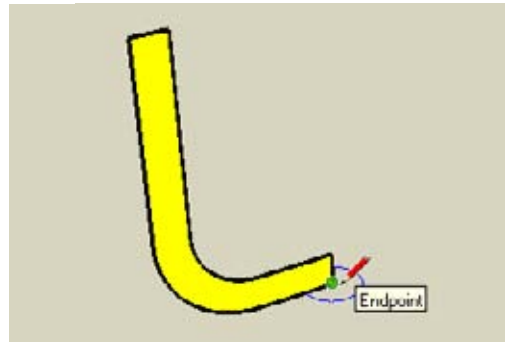

Figure 2-55
- With Shift pressed, hover over the corner shown in Figure 2-55, but don't click. You want to use this point as a placement inference.